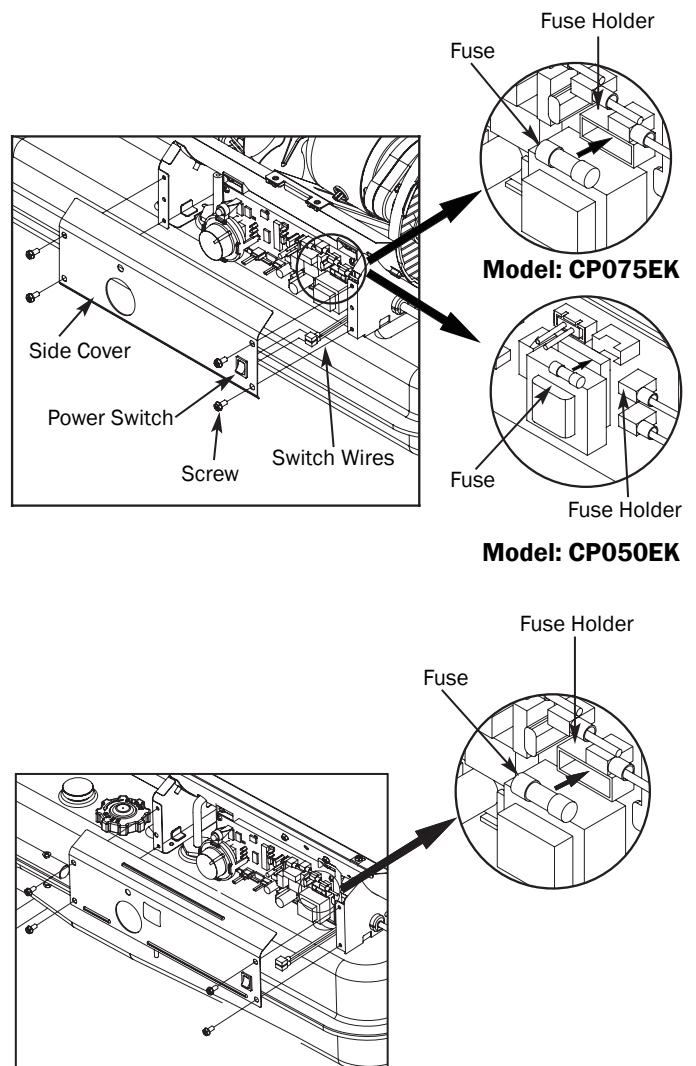

Figure 23 - Replacing Fuse
- Remove fuse from fuse holder (See Figure 23).